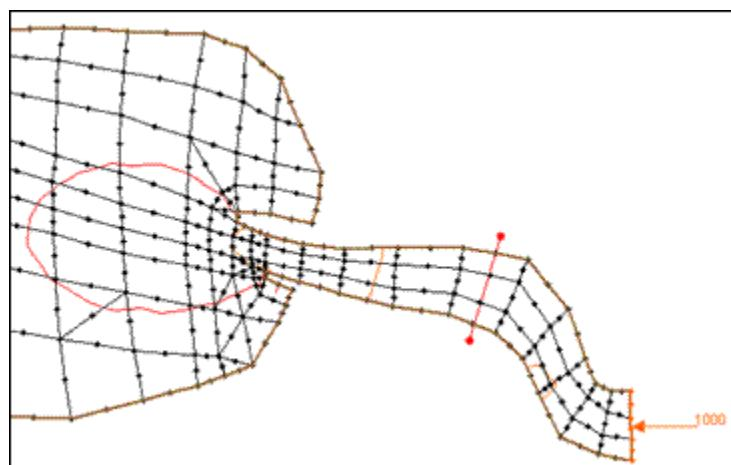

Figure 10 Observation arc across "novo1.sms" mesh
8. With the “Fluxes” coverage active, create an observation arc across the mesh as shown in Figure 10, using the **Create Feature Arc** tool.